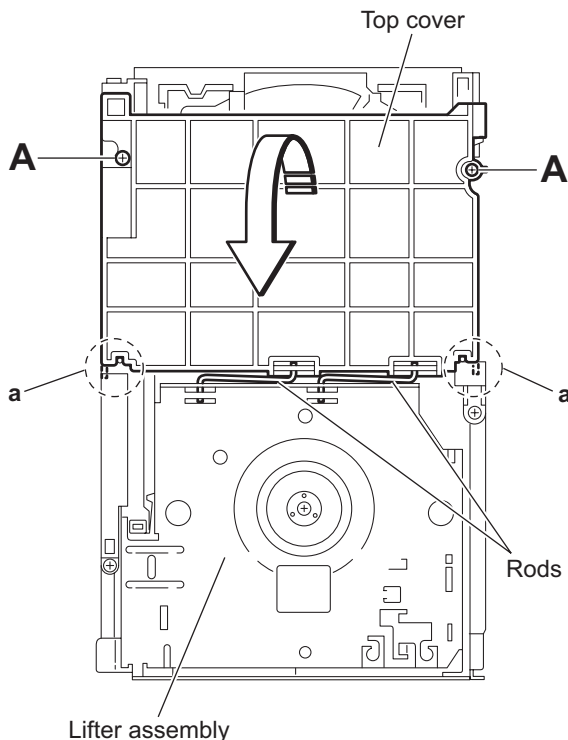

Fig.1
(See Figs.1 to 5)
- (1) From the top side of the main body, remove the two screws **A** from the top cover and release the two joints **a** on the both sides of the DVD changer mechanism assembly. (See Figs.1 and 2.)
- (2) Remove the two rods from the top cover and remove the top cover from the lifter assembly. (See Figs.1 and 2.)